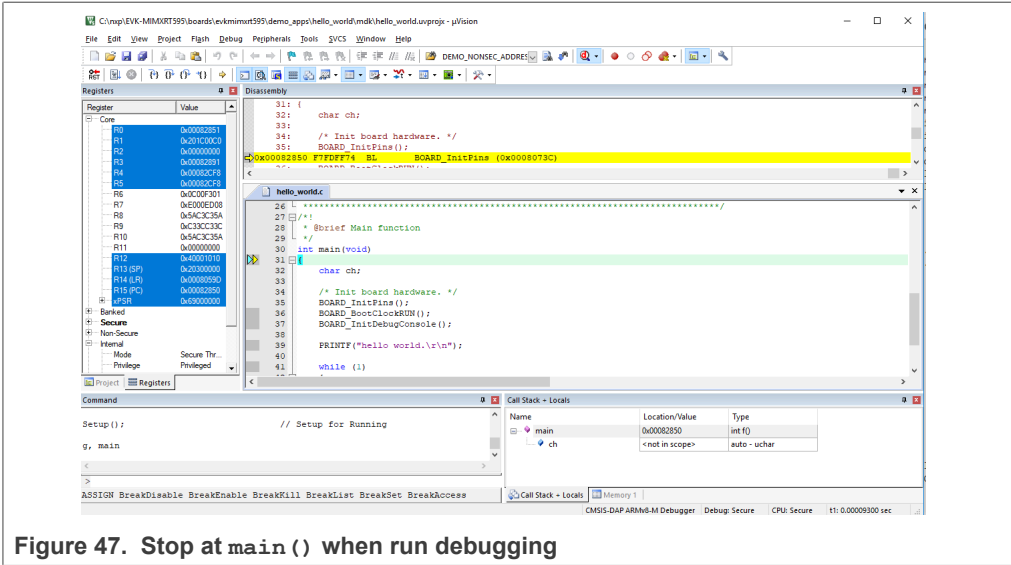

Figure 47. Stop at `main()` when run debugging
4. To debug the application, click **load** (or press the F8 key). Then, click the **Start/Stop Debug Session** button, highlighted in red in Figure 47. If using **J-Link** as the debugger, click **Project option > Debug > Settings > Debug > Port**, and select **SW**. **Note:** When debugging with *jlink*, it expects one *jlinkscript* file named *JLinkSettings.JLinkScript* in the folder where the uVision project files are located. For details, see Segger Wiki. For the contents in this *JlinkSettings.JLinkScript*, use contents in *evkmimxrt1020\_sdram\_init.jlinkscript*.